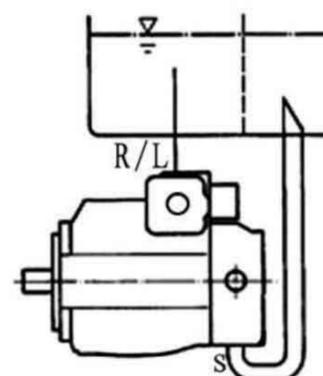

图5 Fig. 5
- b) For installation under the tank. Pipe drain port and port S as per fig. 5. Fill pump casing before running.